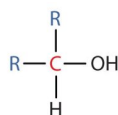

Figure 23.1f. Structure of secondary (2°) alcohol (credit: Intro Chem: GOB \(V. 1.0\), CC BY-NC-SA 3.0).
- A **secondary (2°) alcohol** is one in which the carbon atom (in red) with the OH group is attached to *two* other carbon atoms (in blue) (Figure 23.1f.). Its general formula is R_2CHOH .